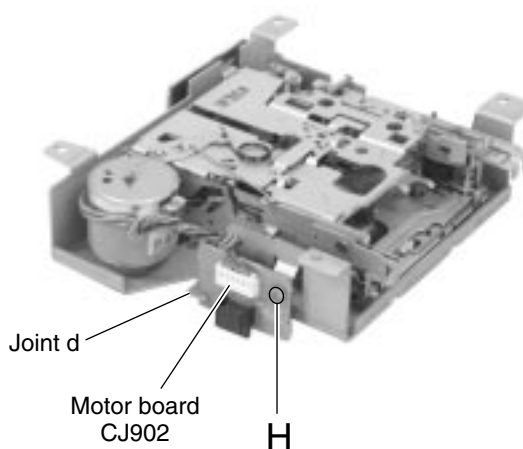

Fig.11
■ **Removing the motor board** (See Fig.11)